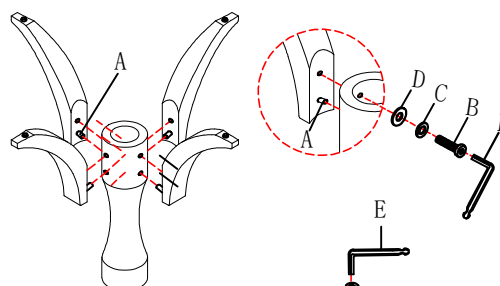

Figure 1
2. Attach the legs to the bottom of pedestal, using Wood dowel (A) and Allen bolt (B), Lock Washer (C), Flat Washer (D) with Allen wrench (E) as shown in Figure 1.